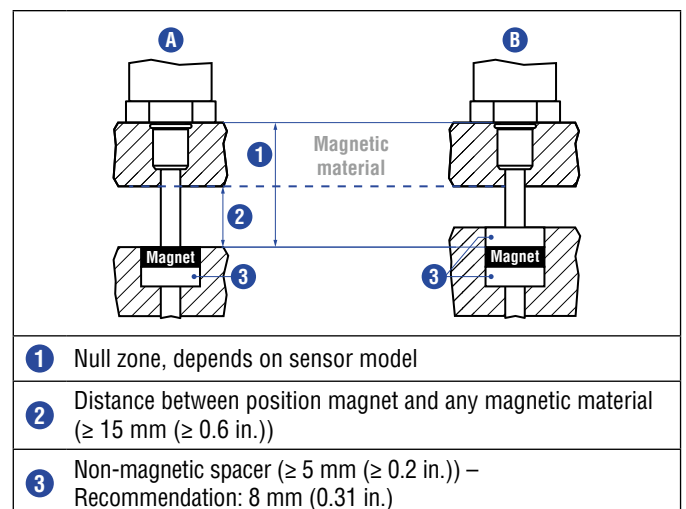

Fig. 15: Installation with magnetic material
- Minimum distance between position magnet and any magnetic material has to be 15 mm (0.6 in.) (Fig. 15)
- If no other option exists and magnetic material is used, observe the specified dimensions (Fig. 15)
When using magnetic material the dimensions of Fig. 15 must be observed.